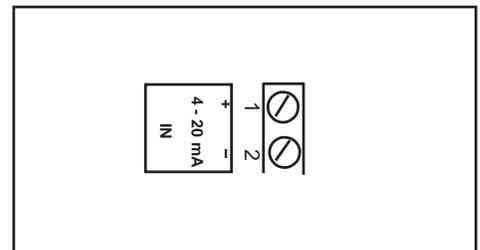

Figure 8 Connections
2. Supply air should meet IEC 770 or ISA 7.0.01 requirements. A coalescing filter should be installed in front of the supply air connection (Figure 8). Now connect the air supply to the filter, which is connected to the **Apex 9000** positioner.
NOTE: The input loop current signal to the **Apex 9000** should be in shielded cable. Shields must be tied to a ground at only one end of the cable to provide a place for environmental electrical noise to be removed from the cable. In general, shield wire should be connected at the source. (Figure 8).